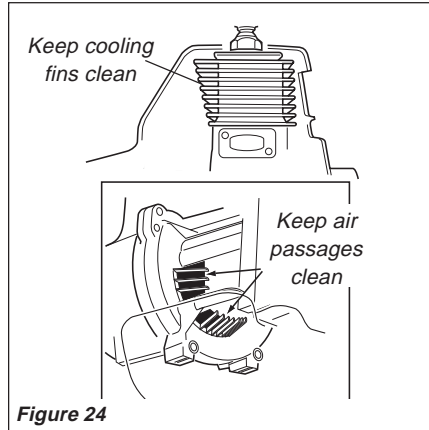

Figure 24
- Remove all dirt and debris from the engine, check the cooling fins and air cleaner for clogging, and clean as necessary. See Figure 24.